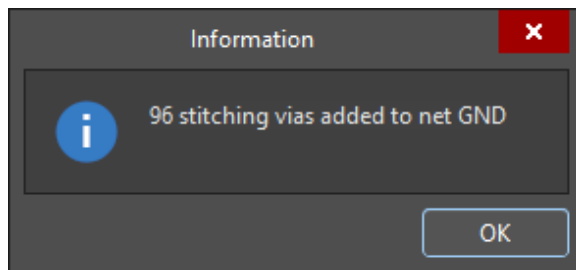

Figure 4. Stitching Vias added
11. Click **OK** to generate the Via Stitching. An *Information* dialog box will appear, stating that 96 vias have added as shown in Figure 4.